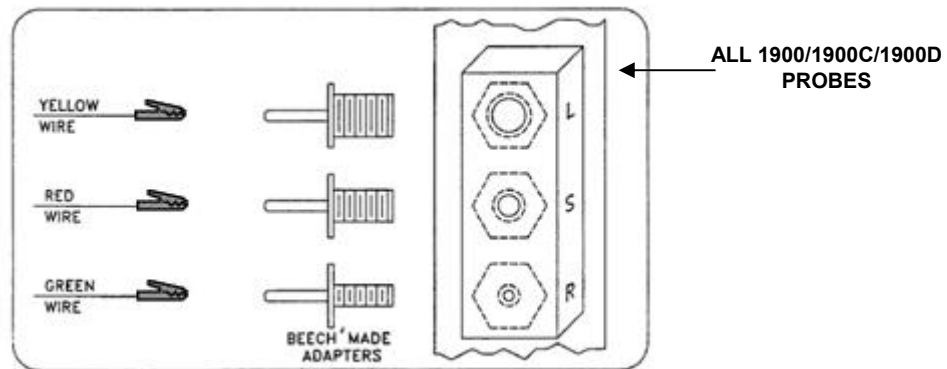

Figure 12 Probes Bench Test
- (3) If necessary, use the Beech made alligator clip adapters (UA and UB) or adapter pins (UC and UE) to attach P/N 101-00829 harness to the probes as shown in Figure 12.